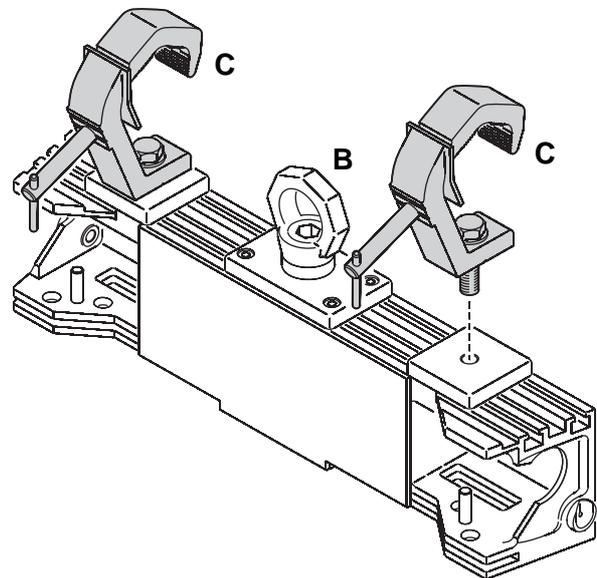

Figure 3: Rigging clamps
If suspending single independent columns of panels one panel wide from a truss, see Figure 3:
- See Figure 3. Obtain rigging clamps **C** that are approved for the total weight they will support. Fasten two clamps securely to each Header using M12 fasteners that are approved for the total weight they will support.